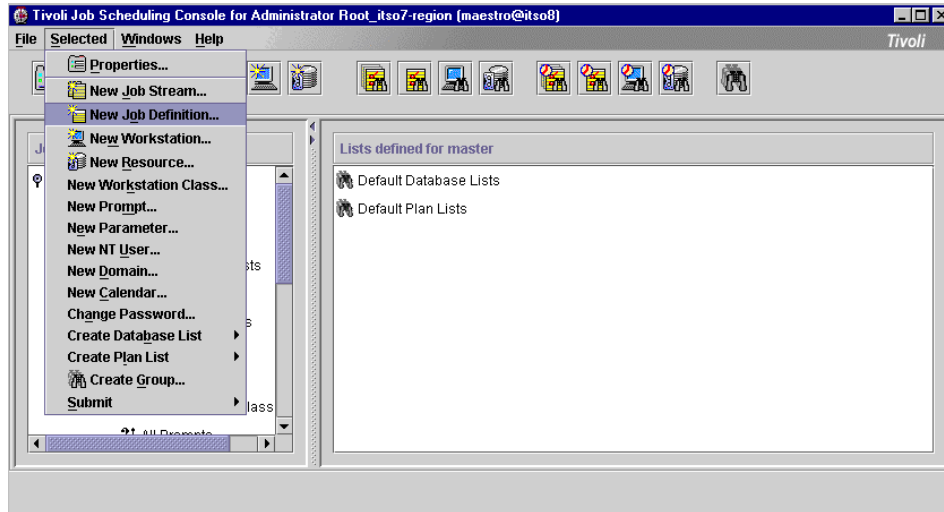

Figure 107. Defining a new Job
2. From the Selected menu, click the **New Job Definition...** command as shown in Figure 107.